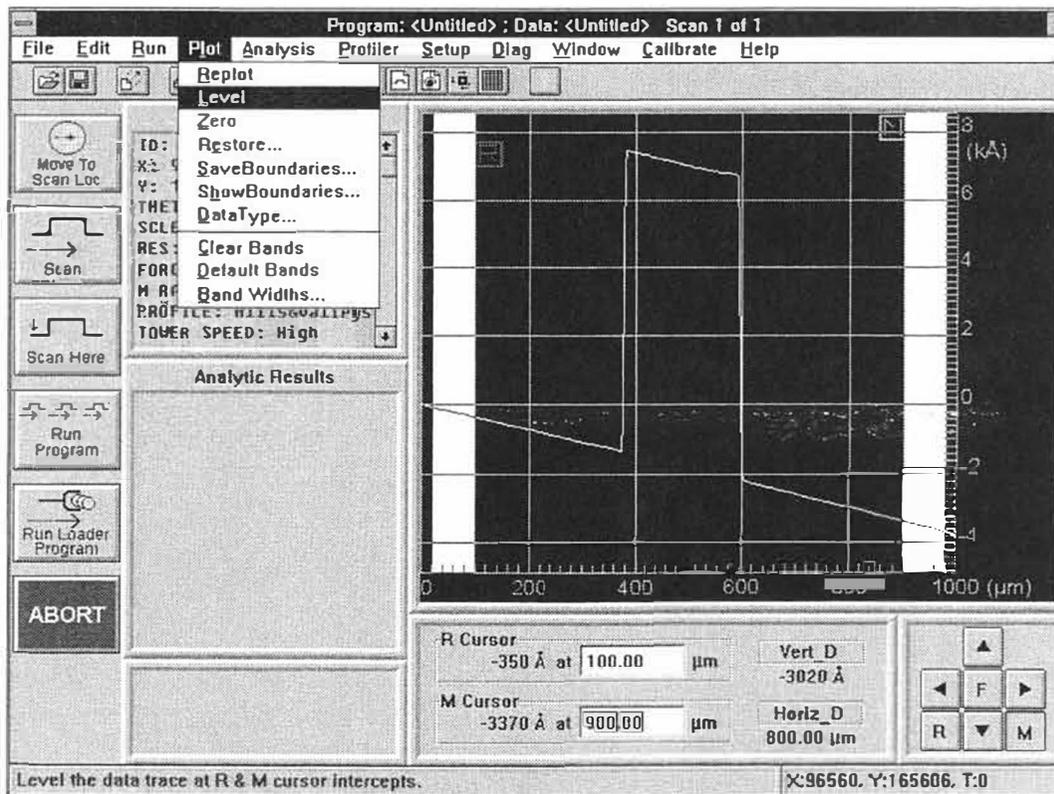

Figure 4-8. Cursor Positioning for Software Leveling
1. To software level a trace, position the R and M cursors along the baseline of the step (see Figure 4-8).
1. Analytical functions are calculated using the R and M cursors. The cursor positions shown in Figure 4-8 are correct for the Delta average step height calculation, with the R cursor at the base of the step and the M cursor at the top of the step.